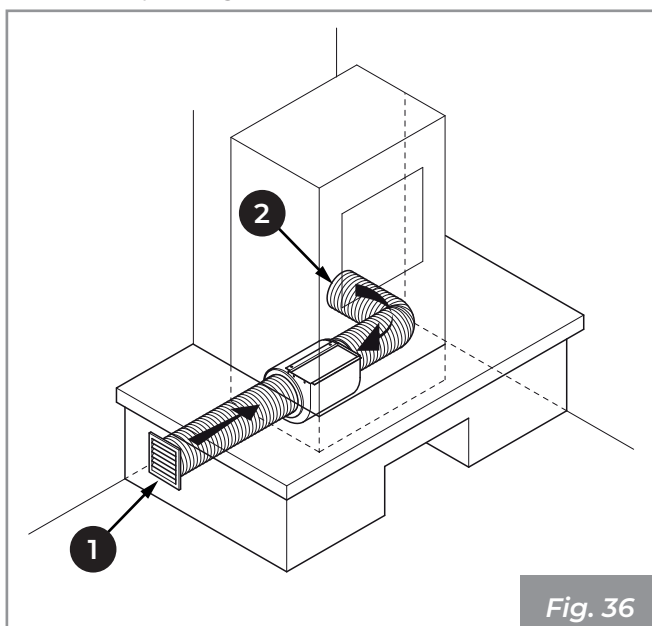

Fig. 36
• The room fan must take in the air from outside the cladding, through an appropriate duct, as shown in Fig. 36. Where: